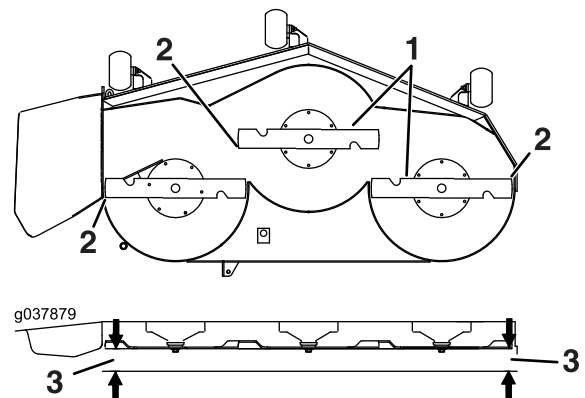

Figure 81
6. Measure between the blade tip and the flat surface (Figure 81). If both measurements are not within 5 mm (3/16 inch), adjust the leveling; continue with this procedure.
- 14. Carefully rotate the blades side to side (Figure 81).